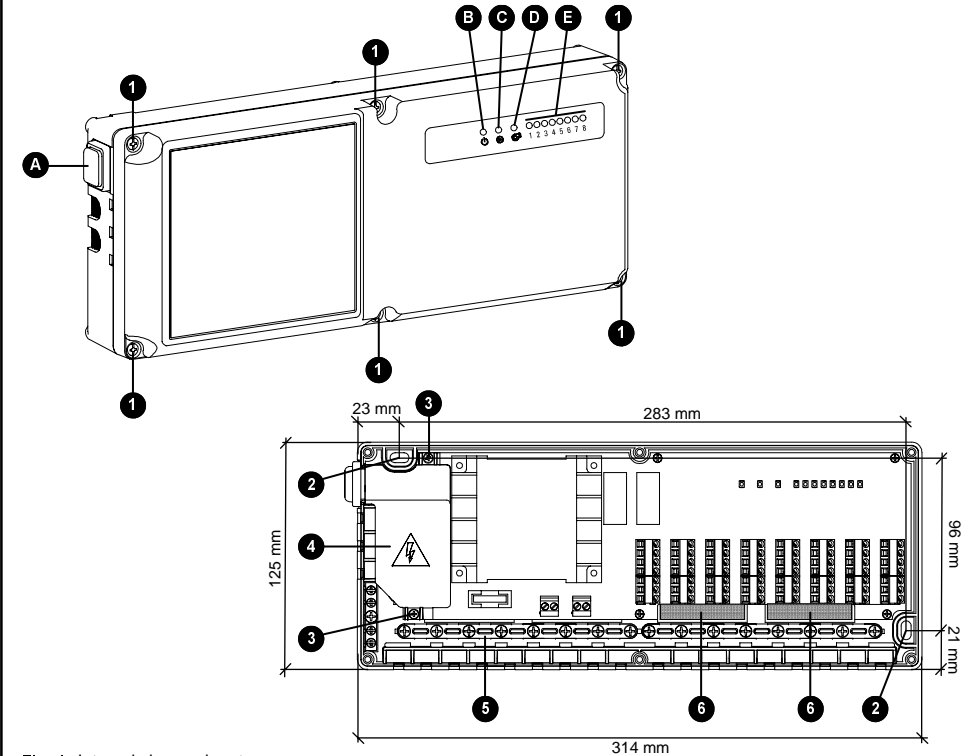

Fig. 1: Internal view and parts.
- Fix the device base to the wall by using the two screw holes labelled 2 in Fig. 1.
- Remove the 2 screws labelled as 3 in Fig. 1 then remove the plastic cover labelled as 4 in Fig. 1.
With the help of a screwdriver, remove the plastic knock-outs from the base, see item 6, Fig. 1. Cables can then be taken through the backplate to the terminal connections.
Green LED: power supply 'ϕ' (B Fig. 1)
Red LED: pump output activation '⊕' (C Fig. 1)
Red LED: boiler output activation '⊕' (D Fig. 1)
Actuator outputs state LEDs '1... 8' (E Fig. 1)
ON / OFF illuminated switch (A Fig. 1)
The illuminated switch at the lower left hand side of the wiring centre will isolate the whole of the wiring centre except the parts under the plastic cover, item 4, Fig. 1, to allow access to thermostats and actuators for testing and fault finding during installation.
- Remove the 6 screws labelled as 1 in Fig. 1 then remove the front plastic cover.